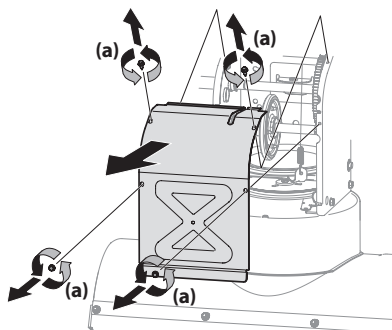

Figure 4-4
3. Remove frame cover from underside of unit by removing self-tapping screws (a) which secure it. Refer to Figure 4-4.
5. Remove frame cover from underside of unit by removing self-tapping screws which secure it. See Figure 4-4.
3. Remove frame cover from underside of unit by removing four self-tapping screws which secure it. See Figure 4-4.